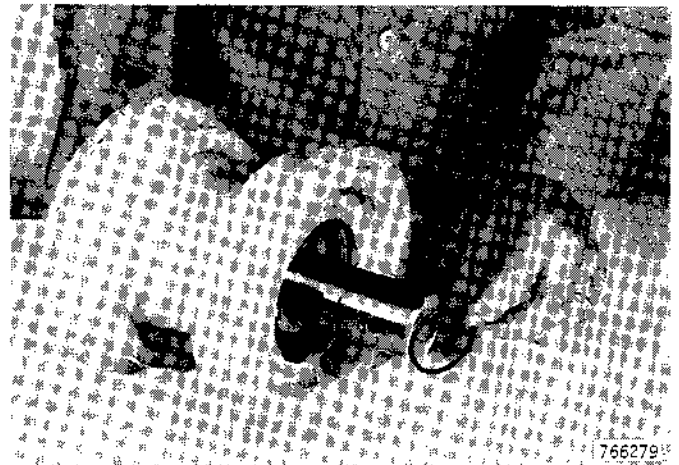

Figure 11
10. Remove O-ring from shaft, Figure 11.